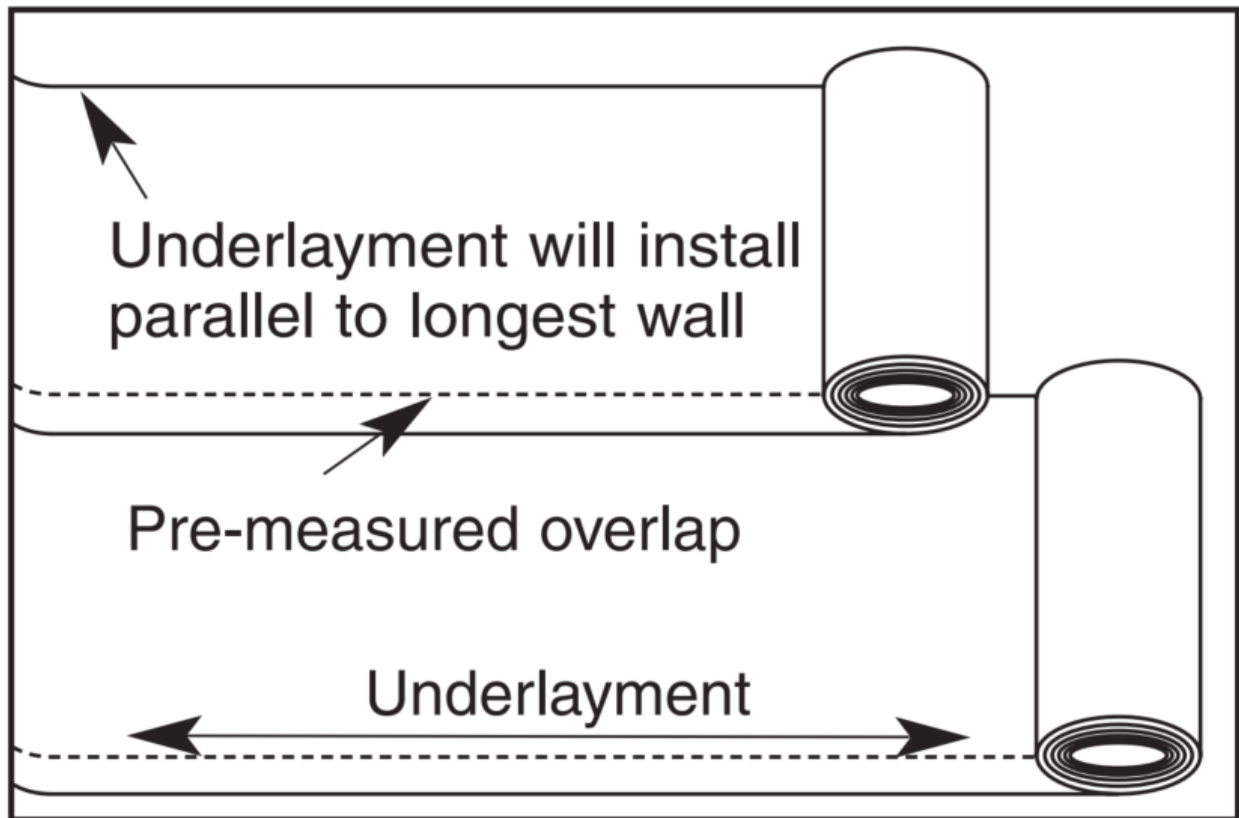

Figure 12
- The floating floor underlayment already has double-sided tape for ease of taping the precut overlapping seams (Figure 12). If a non-adhesive underlayment is used, tape all seams with the included tape